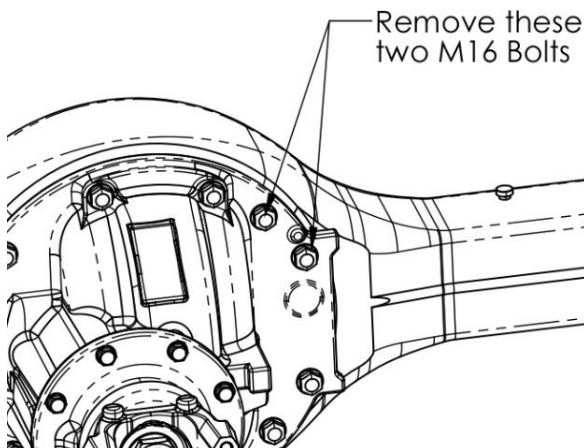

Figure 9, Removal of Axle Bolts.
2. Remove the two axle differential bolts as shown in Figure 9.